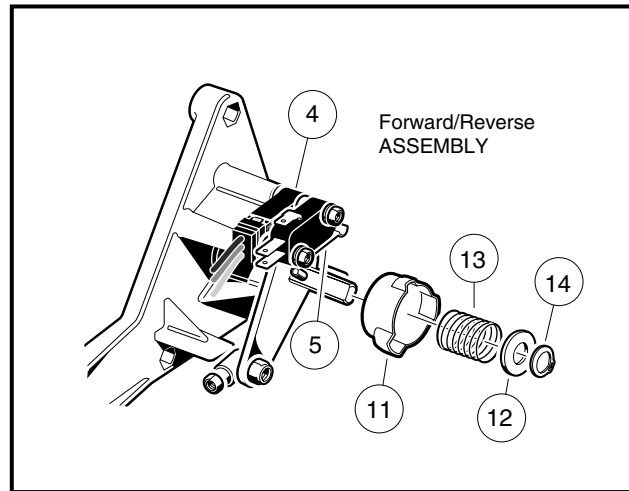

Figure 12-23 Lockout Cam
4. Remove the external snap ring (14) (**Figure 12-23, Page 12-21**).
5. Remove the plastic washer (12) and the spring (13).
6. Remove the cam (11).
1. Install the cam (11) (**Figure 12-23, Page 12-21**).
2. Install the spring (13) and the plastic washer (12).
3. Install the external snap ring (14) onto the shaft. Be sure the snap ring is installed in the groove on the shaft. Also be sure that the cam is installed so that the lockout limit switch is activated only when the Forward/Reverse handle is in NEUTRAL.